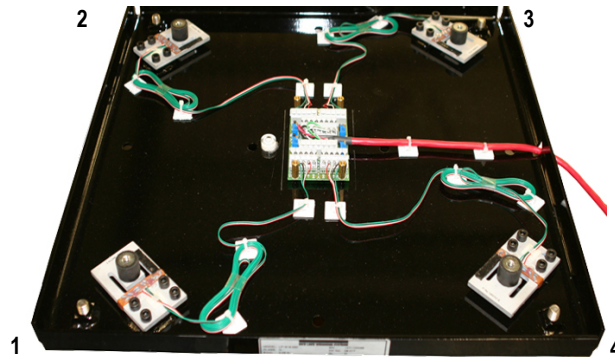

Figure 4-1. Load Cell Arrangement
5. Attach the cable from each load cell along the frame and into the summing board as shown in Figure 4-1.
In Figure 4-1, both the scale and the summing board are viewed from the top. To verify correct load cell/summing board terminal matching, see the numbers on the terminals inside the summing board.